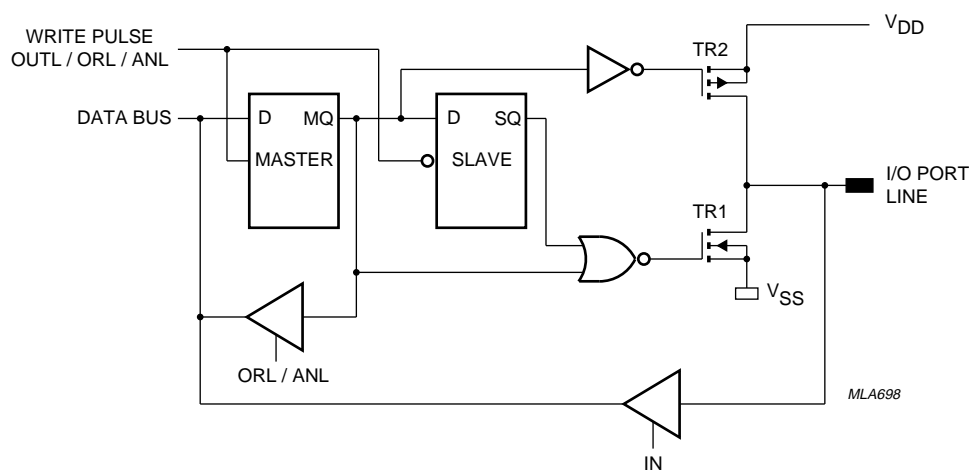

Fig.13 Push-pull output.
- Option 3 **Push-pull**; drive capability of the output will be 5 mA (typ.) at $V_{DD} = 3$ V in both polarities. Since short circuit currents would flow during input, push-pull lines must only be used as outputs (see Fig.13).